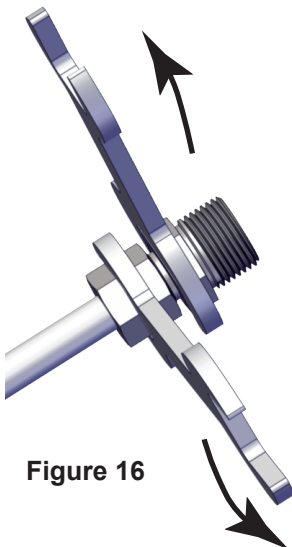

Figure 16
- Finally, use two wrenches to tighten the nut and joint with the opposite force as shown in Figure 16.
i If the water heater is found to have water leakage at the joint during use, it can be tightened slowly by referring to "Figure 16" until there is no water leakage.